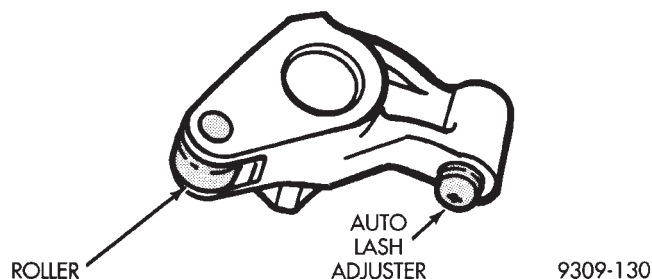

Fig. 7 Inspect Rocker Arms
(1) Check rocker arms for wear or damage (Fig. 7):
- (2) Replace assembly as necessary if any rocker arms shows signs of wear.
hydraulic lash adjuster from the rocker arm assembly (Fig. 7). Damage to the adjuster or rocker arm will occur.